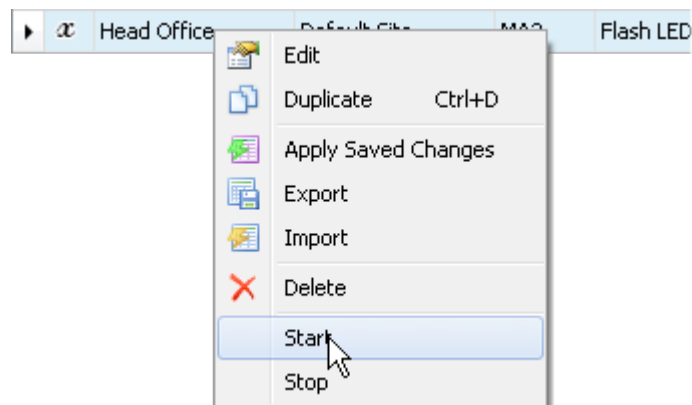

Figure 36
2. Right-click the macro in the automation the macro panel and select 'Start'. (Figure 36)